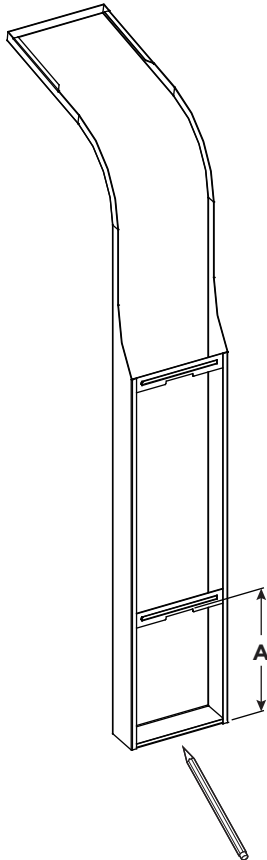

Fig 1.1
- 1-1** Position the shower panel on the wall according to figure A at page 5. Draw line 1 on the wall along the bottom of shower panel. (Fig 1.1)